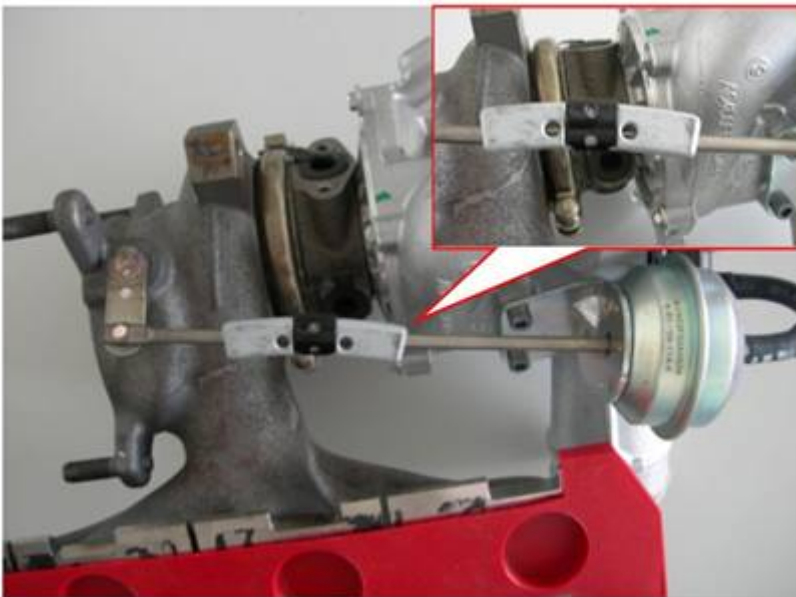

Figure 1
3. Once you have confirmed and familiarized yourself with the noise, attach a 2 ounce wheel weight to the wastegate actuator rod (figure 1) and take the vehicle for another test drive.